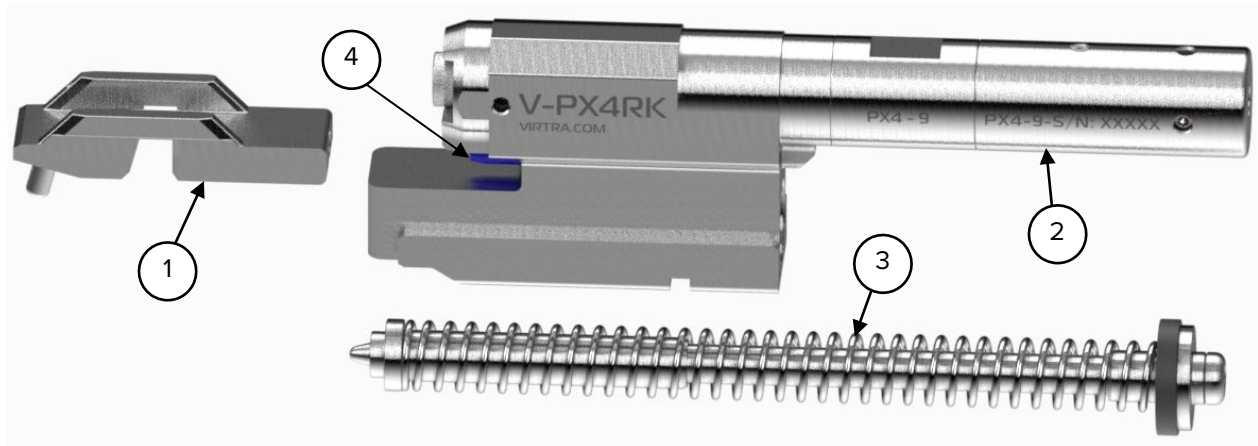
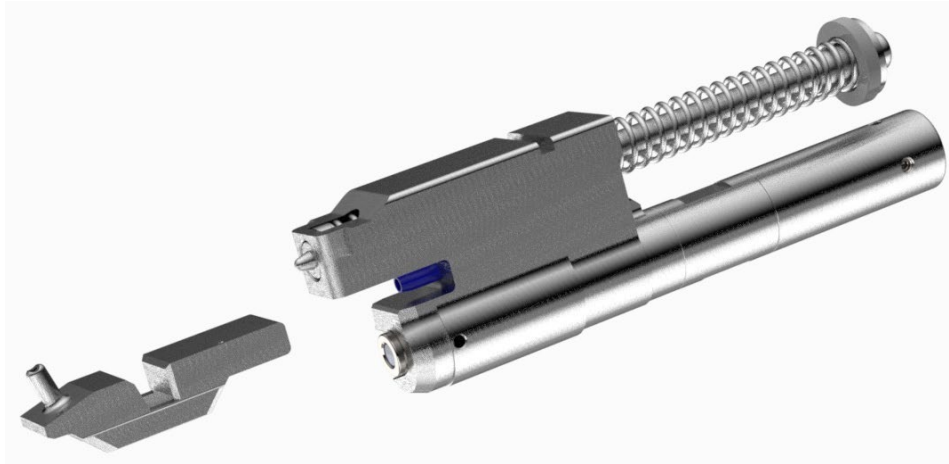
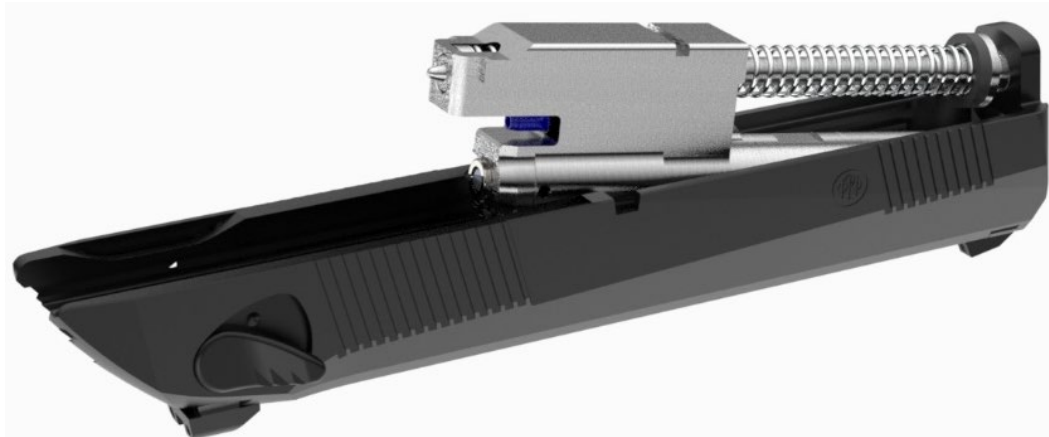
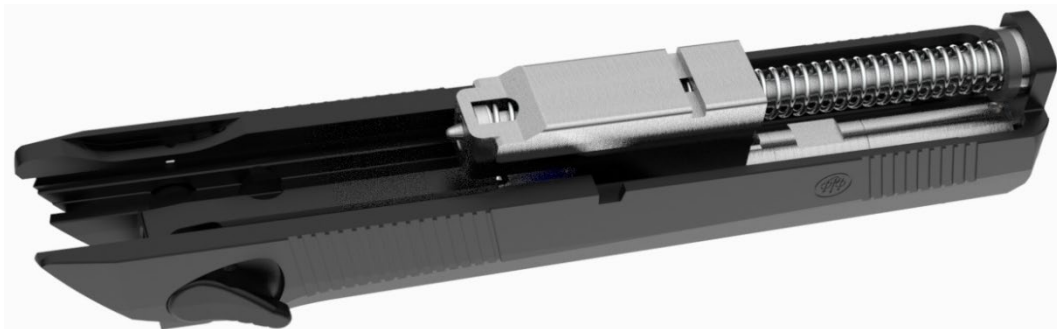

Figure 1: Recoil Kit Assembly
Figure 3
Figure 4
Figure 5
- Remove the Tailpiece (Figure 1, #1) from the recoil kit by pulling it in the direction of the red arrow (See Figure 3).
- With the bottom of the slide turned up, place the Barrel (with air tube) and recoil spring assemblies (See Figure 1: Recoil Kit Assembly #2, #3, #4) into the slide with the barrel assembly turned up and angled as shown. (See Figure 4). Push barrel assembly towards the exit end of the slide and then push down locking the barrel into the slide (See Figure 5).